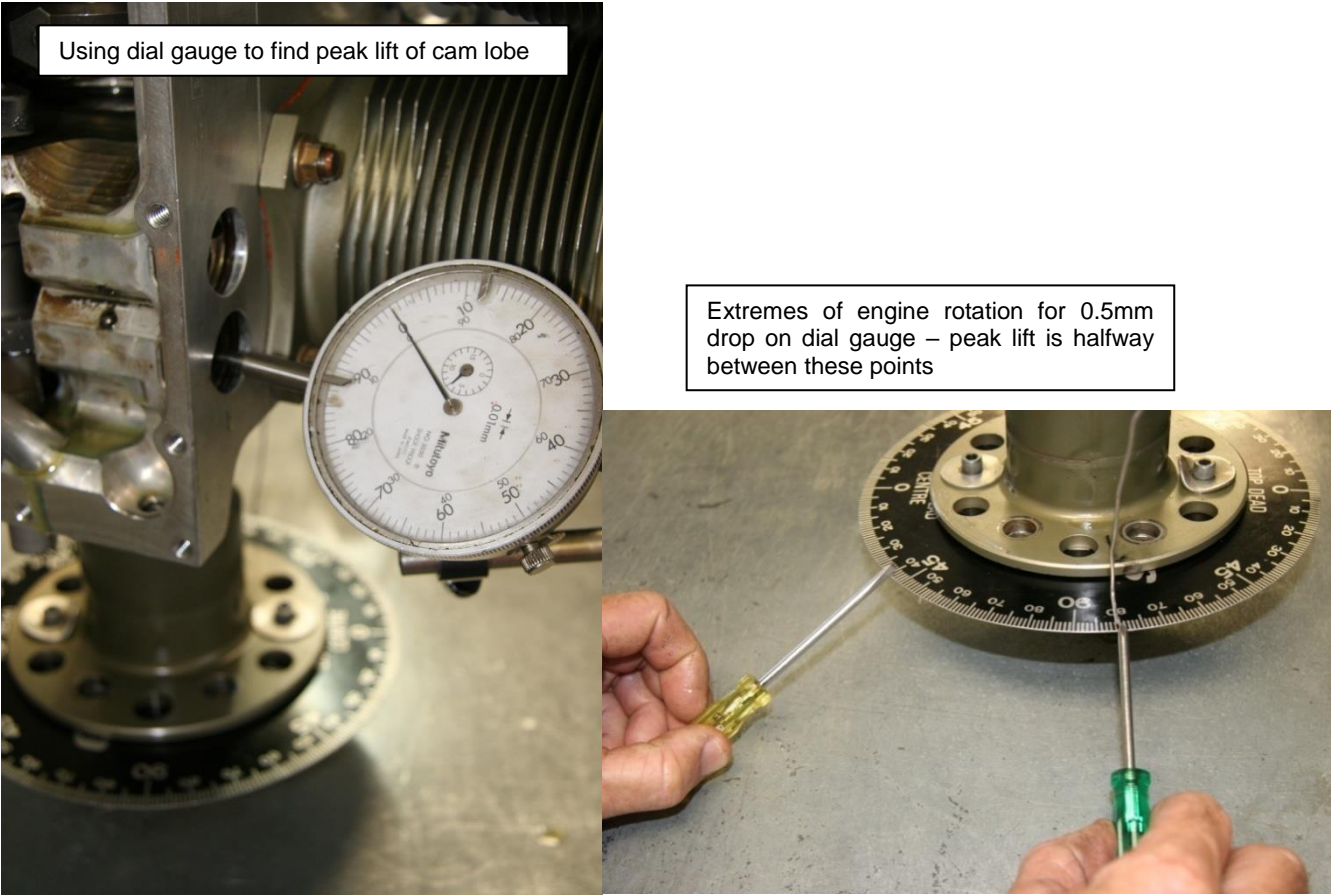

Figure 168 – Checking Cam Timing #1
- For a hydraulic lifter engine – for measurement purposes – fit a hydraulic lifter to the lowermost port of the engine (as shown in Figure 168 – alternatively a special tool such as that shown in Figure 29 can be used).